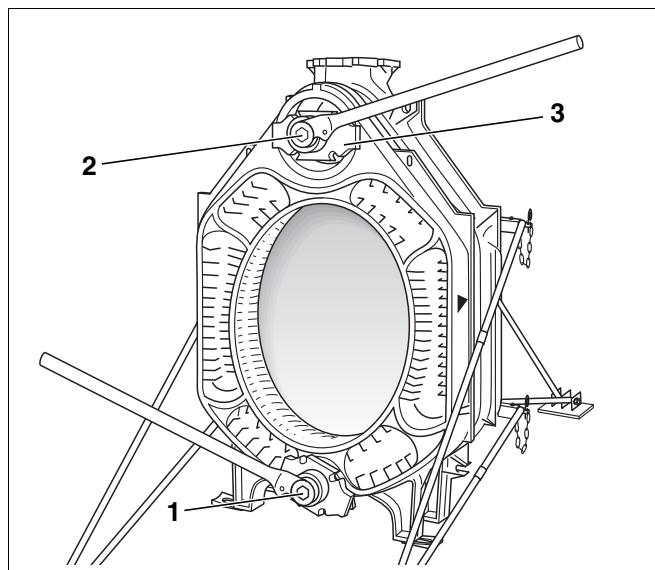

Fig. 19 Using the boiler compression tool
Use a size 2.2 or 2.3 boiler compression tool (Fig. 4 or Fig. 5 and Fig. 19, [1] and [2]).
- ▶ Push pressure flanges (Fig. 19, [3]) with clamping nuts onto the pull rods (Fig. 4, page 14 or Fig. 5, page 14, [4]).